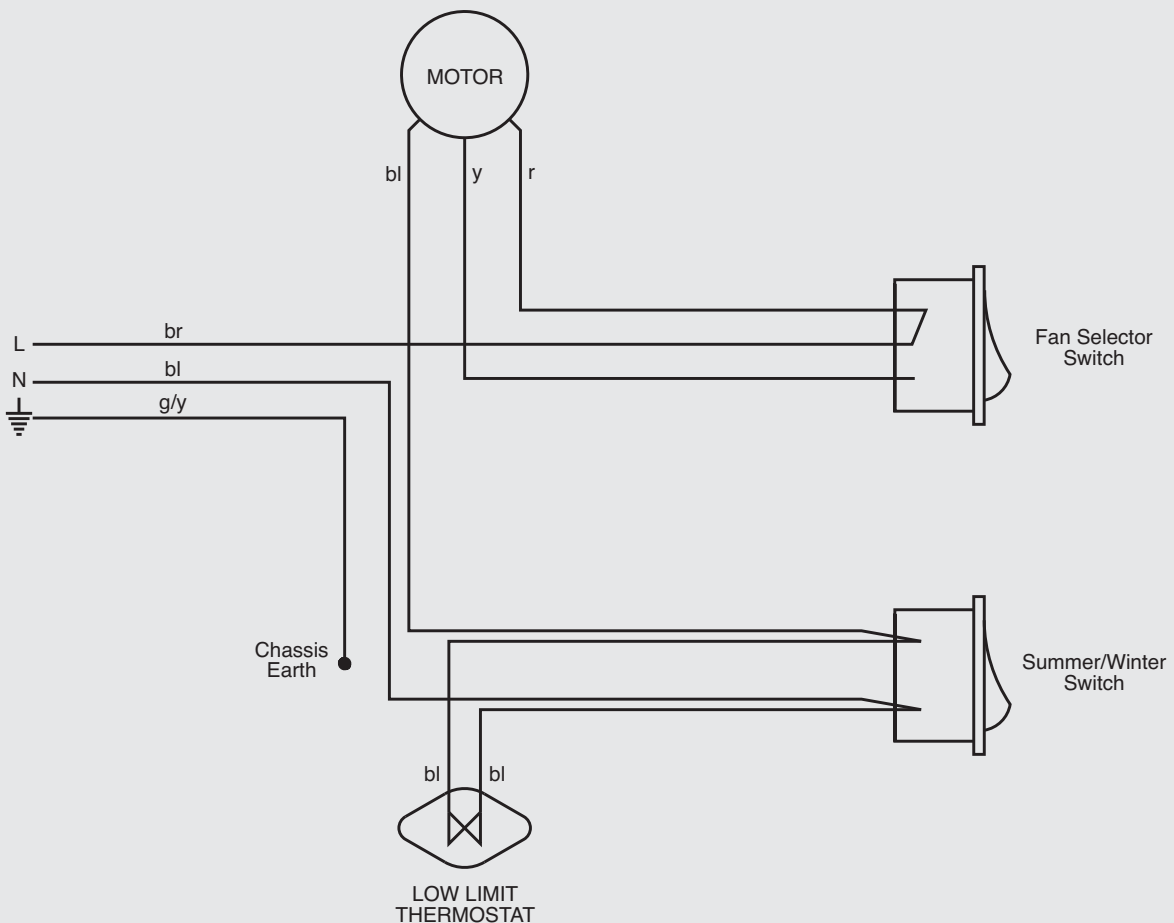

Fig. 8 KICKSPACE® 500, 600 & 800 wiring diagram
- For KICKSPACE® 500, 600 and 800, a fused (3A) electrical spur with a switch having 3mm separation on all poles must be provided in an easily accessible position adjacent to the unit (see Fig. 8).